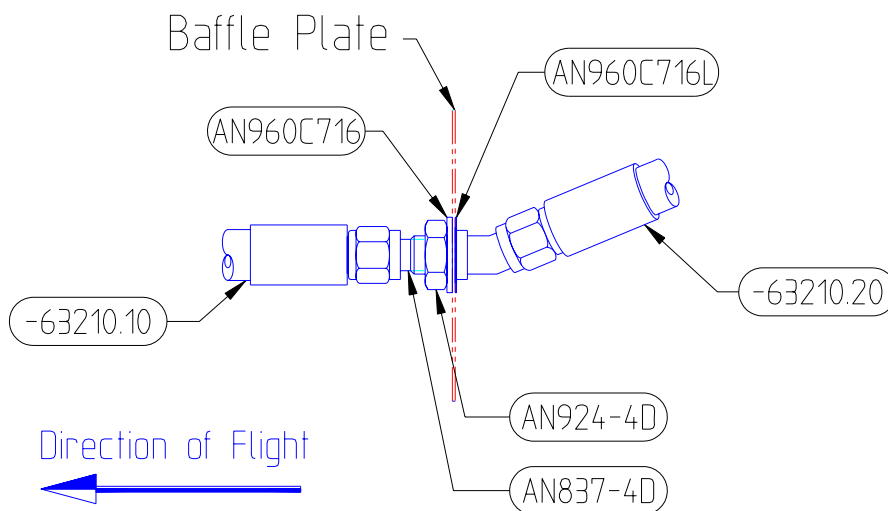

Fig. 6: Bulkhead Fitting Fuel Sensing Line Installation
- Reinstall bulkhead fitting (use AN837-4D) and reconnect fuel sensing lines, see Figure 6.